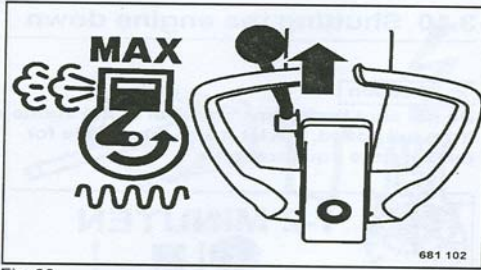

Fig. 22
- Shift the throttle lever (Fig. 22) to position "MAX".